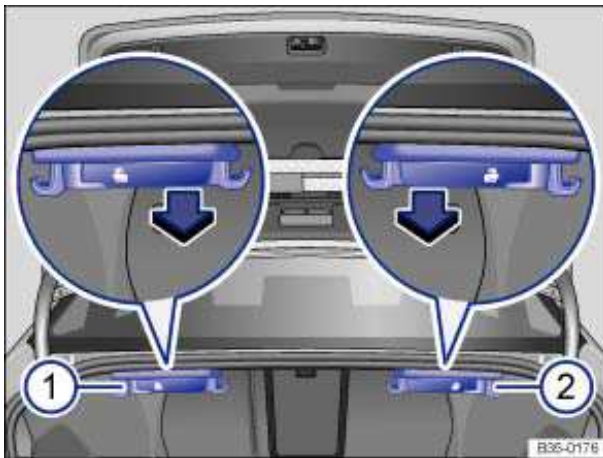

Fig. 88 In the luggage compartment: Release lever for the left 1 and right 2 sections of the rear seat backrest.
- Pull the remote release lever for the left ⇒ fig. 88 \(1\) or right \(2\) rear seat backrest in the direction of the arrow. The unlocked section of the rear seat folds forward automatically.